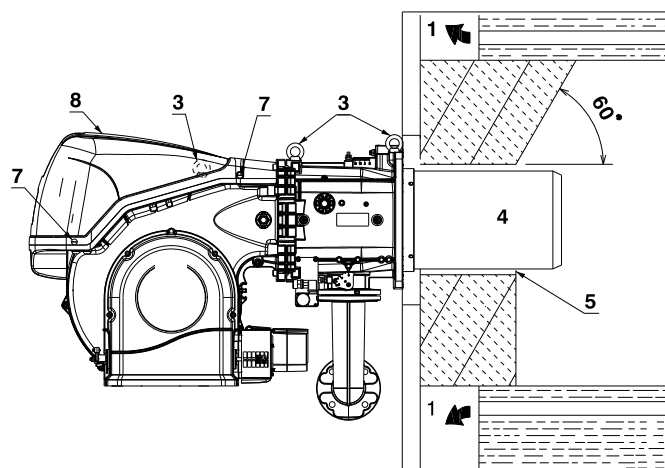

Fig. 15
For boilers with front flue passes 1)(Fig. 15) or flame inversion chamber, a protection in refractory material 5) must be inserted between the boiler fettling 2) and the blast tube 4).
For boilers with a water-cooled front piece, a refractory lining 2)-5) (Fig. 15) is not necessary, unless expressly requested by the boiler manufacturer.
Prepare a suitable lifting system using the rings 3)(Fig. 15), after removing the fixing screws 7) of the casing 8).
- Fit the heat insulation supplied onto the blast tube 4)(Fig. 15).